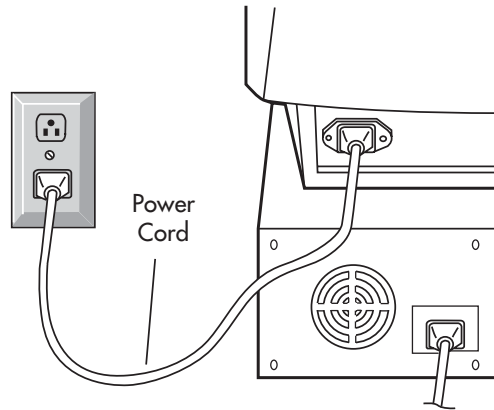

Figure C.1
**NOTE:** To obtain the Diamond Pro 2070SB Macintosh cable adapter, call NEC-Mitsubishi Electronics Display of America, Inc. at (800) 632-4662.
5. Connect one end of the power cord to the Diamond Pro monitor and the other end to the power outlet (**Figure C.1**).